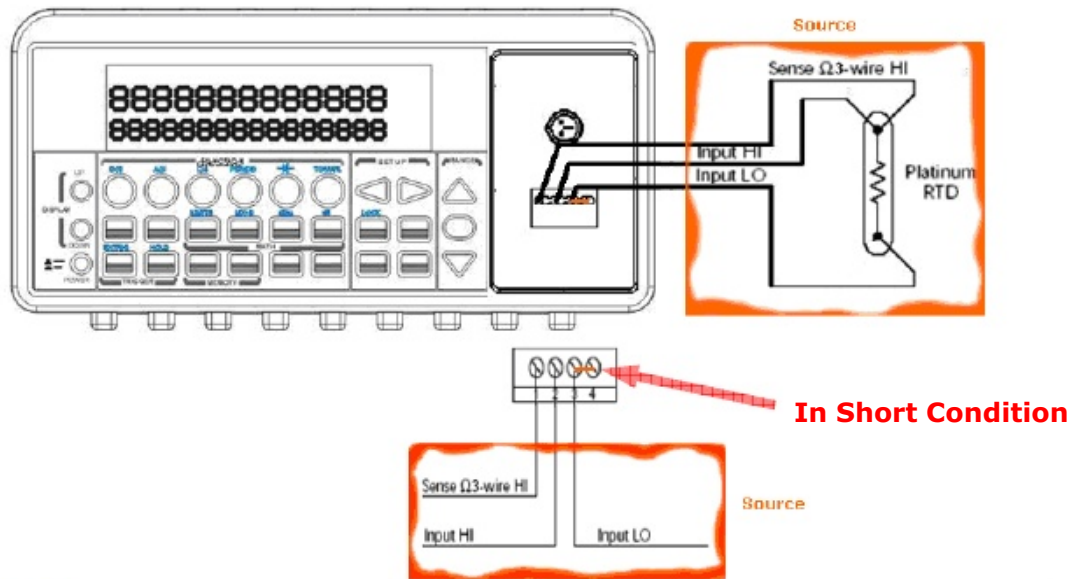

Figure 3-16
- ① Use terminals switch to select front terminals.
- ② Insert a specified adapter into the front terminals. Connect the low thermal patch leads to the adapter as shown in **Figure 3-16**.
- ③ Configure sensor type, transducer (4W) and unit using CONFIG +